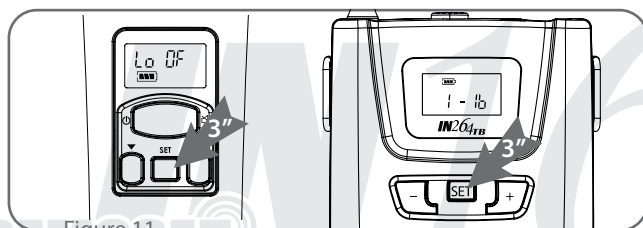

Figure 11
- (1) Press "Set" button ②⑨ for 3 seconds to enter setting window. (Figure 11)
- (2) Press "Set" again until the Lock setting window shows.